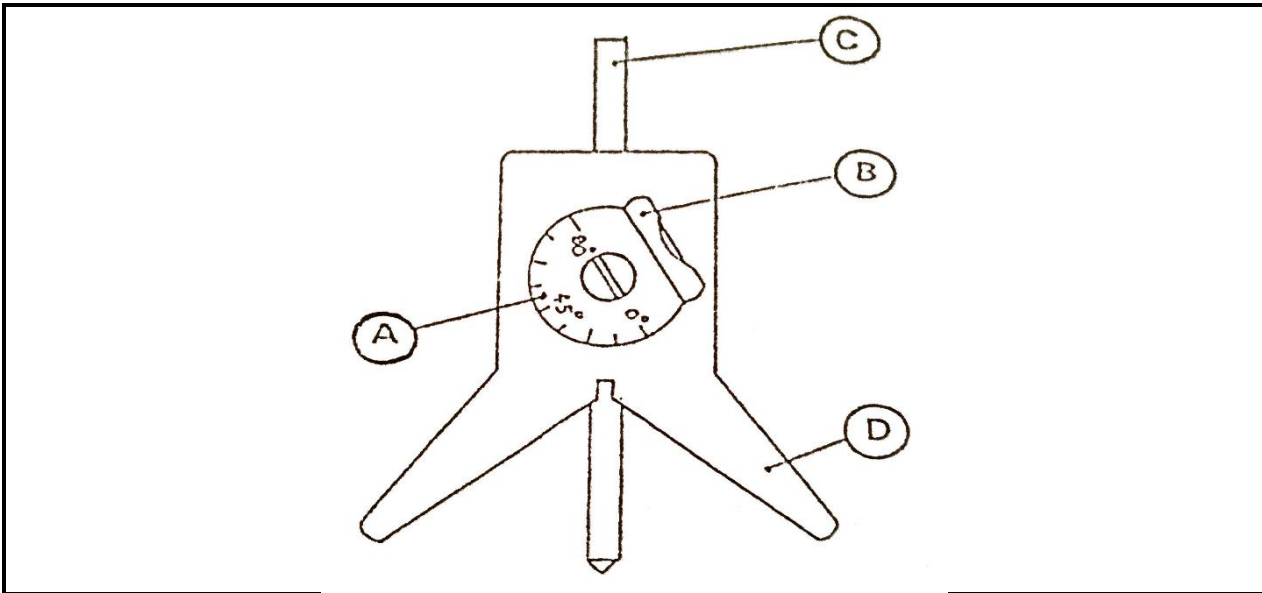

FIGURE 4
- 4.1 FIGURE 4 below shows a center finder. Name the parts A–D by writing only the name and the use of each part next to the letter (A–D) in the ANSWER BOOK.